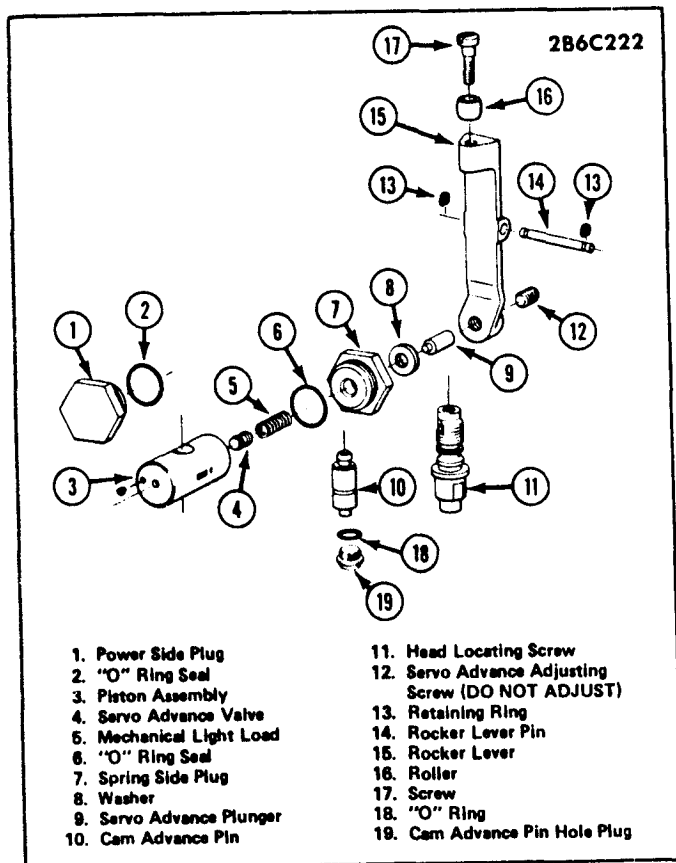

Figure 6C5-32 Roosa-Master Automatic Advance Group
1. Lube the new seals and reassemble as shown in Figure 6C5-32.
2. Remove the metering valve (Figure 6C5-29).